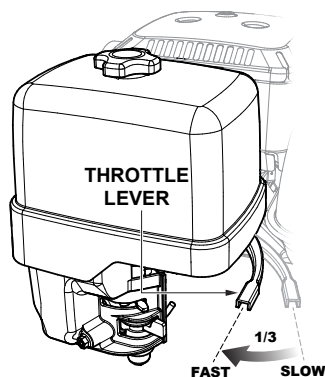

Figure 9. Engine Throttle Lever (1/3 Start Position)
3. Move the engine throttle lever (Figure 9) away from the slow position, about 1/3 of the way toward the fast position.